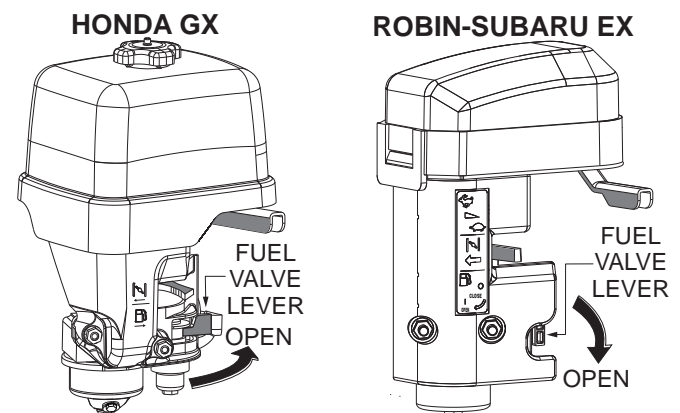

Figure 31. Engine Fuel Valve Lever (Open)
1. Place the engine fuel valve lever in the **OPEN** position (Figure 31).